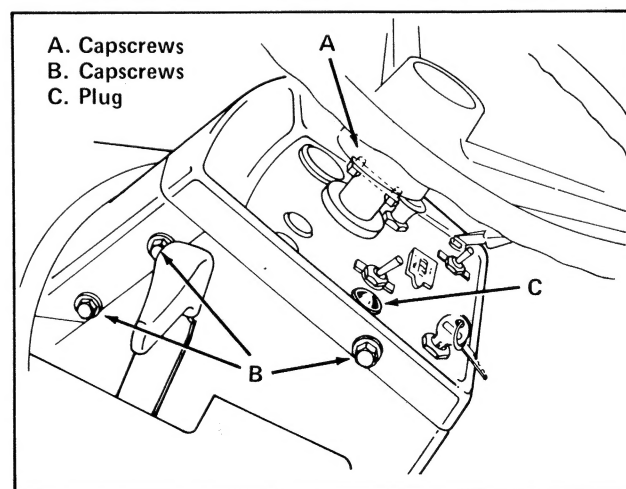

Figure 22. Lift Out Control Panel
3. Remove capscrews (item A, figure 22) and pull the steering wheel off. Remove six capscrews (item B) and lift up control panel.